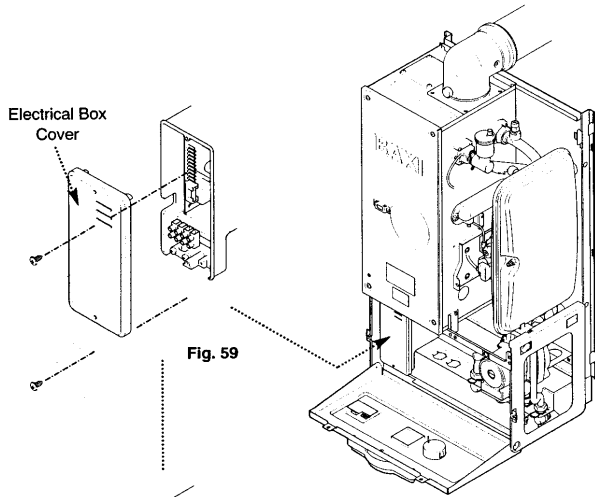

Fig. 59
1. Remove the two screws securing the main electrical box cover (Fig. 59).